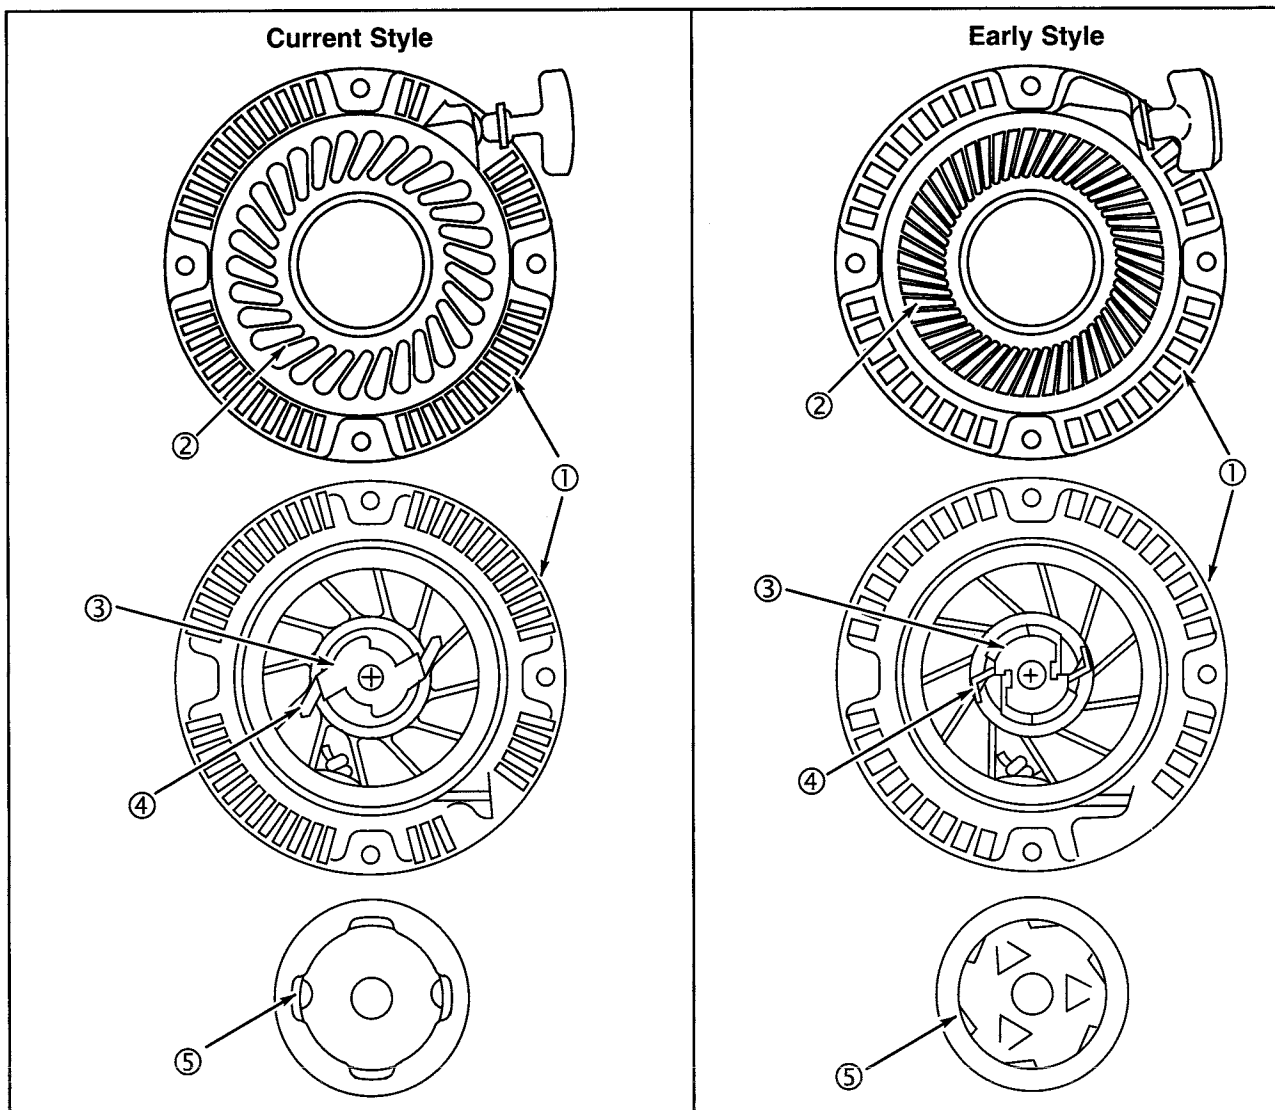

**Fig. 48**
1. Mark center of rivets holding the ring gear (1) to flywheel (4), **Fig. 48**, with a center punch.
4. Attach new gear to flywheel using four screws (2) and lock nuts (3) provided with gear. Tighten nuts and screws securely.